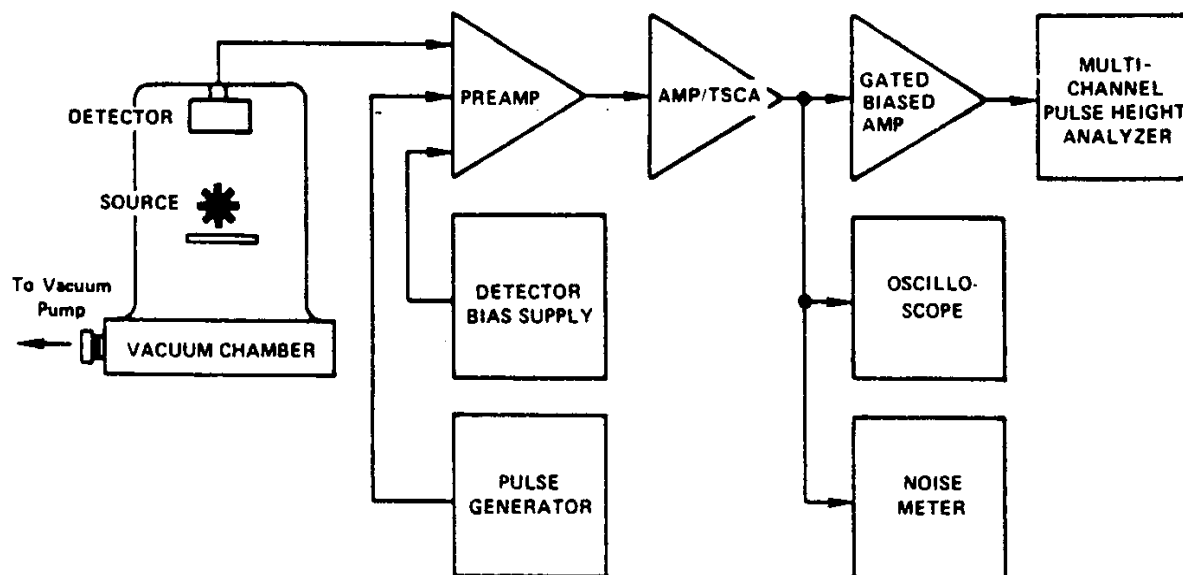

Fig. 4.9. System for High-Resolution Alpha-Particle Spectroscopy.
**HIGH-RESOLUTION ALPHA-PARTICLE SPECTROSCOPY SYSTEM** The block diagram of a high-resolution Spectroscopy system for measuring natural alpha particle radiation is shown in Fig. 4.9. Since natural alpha radiation occurs only above several MeV, an ORTEC 444 Biased Amplifier is used to suppress the unused portion of the spectrum; the same result can be obtained by using digital suppression on the MCA in many cases. Alpha-particle resolution is obtained in the following manner: